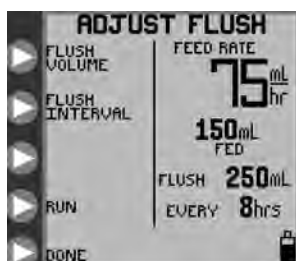
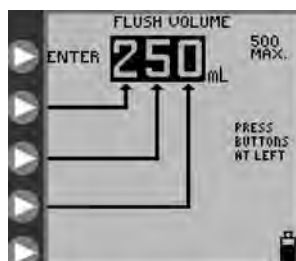
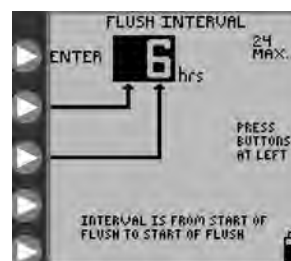

Figure 12A. **ADJUST FLUSH** menu, continuous mode.
Figure 12B. Setting the Flush Volume.
Figure 12C. Setting the Flush Time Interval.
Press ► **ADJUST FLUSH** in Figure 7B to program the flushing parameters from the **ADJUST FLUSH** screen, shown in Figure 12A.
Press ► **FLUSH VOLUME** in Figure 12A to define the volume per flush occurrence. Press the ► buttons in Figure 12B to program the flush volume from 10 to 500 in increments of 1 mL. Press ► **ENTER** (top button) to exit the menu.
Press ► **FLUSH INTERVAL** in Figure 12A to define the time interval between starts of flushing. Press the ► buttons in Figure 12C to program the time interval from 1 to 24 hours in increments of 1 hour. Press ► **ENTER** (top button) to exit the menu.
- **ADJUST FLUSH** screens (Figure 12A, 14A)
During the **RUNNING** mode, the pump can be diverted to immediately perform a flush (flush on demand) by pressing ► **FLUSH NOW** in the **RUNNING** menu, input a desired flush volume, then press ► **ENTER**. See Figure 15A. When ► **FLUSH NOW** is pressed, the screen will prompt for the volume to be immediately flushed, and will show the previously programmed flush volume as default but may be adjusted to the users desired volume. The screen will appear as the standard flush input screen as shown in Figure 12B (or 14B). Setting the **FLUSH NOW** flushing volume is temporary and will not change the main/periodic flushing volume previously programmed. If ► **FLUSH NOW** is pressed by accident; the user may either press the cancel button or allow the screen to return to the **RUNNING** screen after 10 seconds, if there is no input for the flush volume.